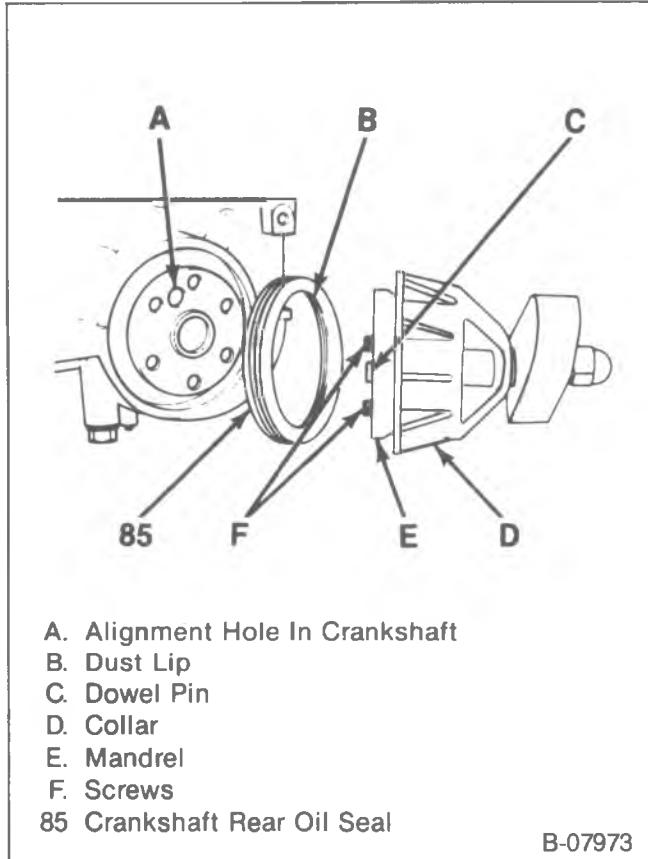

Figure 31—Installing the Crankshaft Oil Seal
2. New seal over the mandrel of J-34686 until the dust lip (back of the seal) bottoms against the collar of the tool (figure 31).